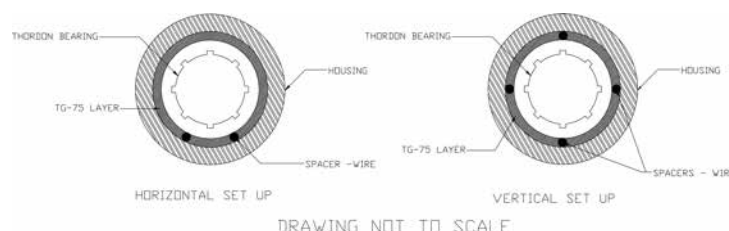

Figure 8: Wire used to keep bearing concentric in housing.
4. Spacers can be used in situations where the bearing cannot be held concentrically with the housing and uneven adhesive thickness is an issue. Glass beads and metal shims and wire can be used to ensure an even thickness throughout the circumference – see Figure 8 for suggested set up.